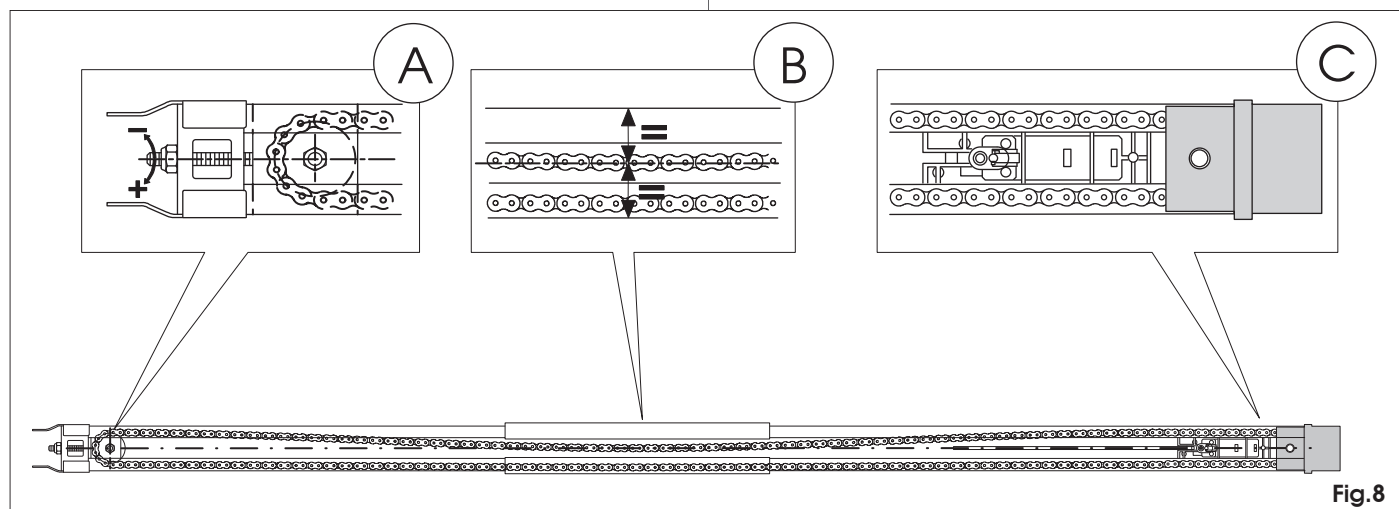

Fig. 8
- 5) Place the sliding guide on the side (Fig. 8).
- 6) Push the carriage toward the drive clutch unit (Fig. 8 ref. C).
- 7) Adjust the tensioner (fig. 8 ref. A) so that the central zone of the loop, formed by the top branch of the chain, coincides with about the mid-point of the sliding guide (Fig. 8 ref. B)